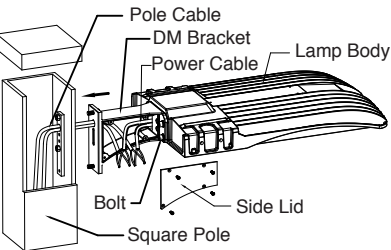

Figure 3-1
1. Open the side lid of direct bracket, let the power cable go through the direct bracket. Fix the direct bracket to the end of lamp body with bolt. Let the pole cable go through the direct bracket. (Figure 3-1)